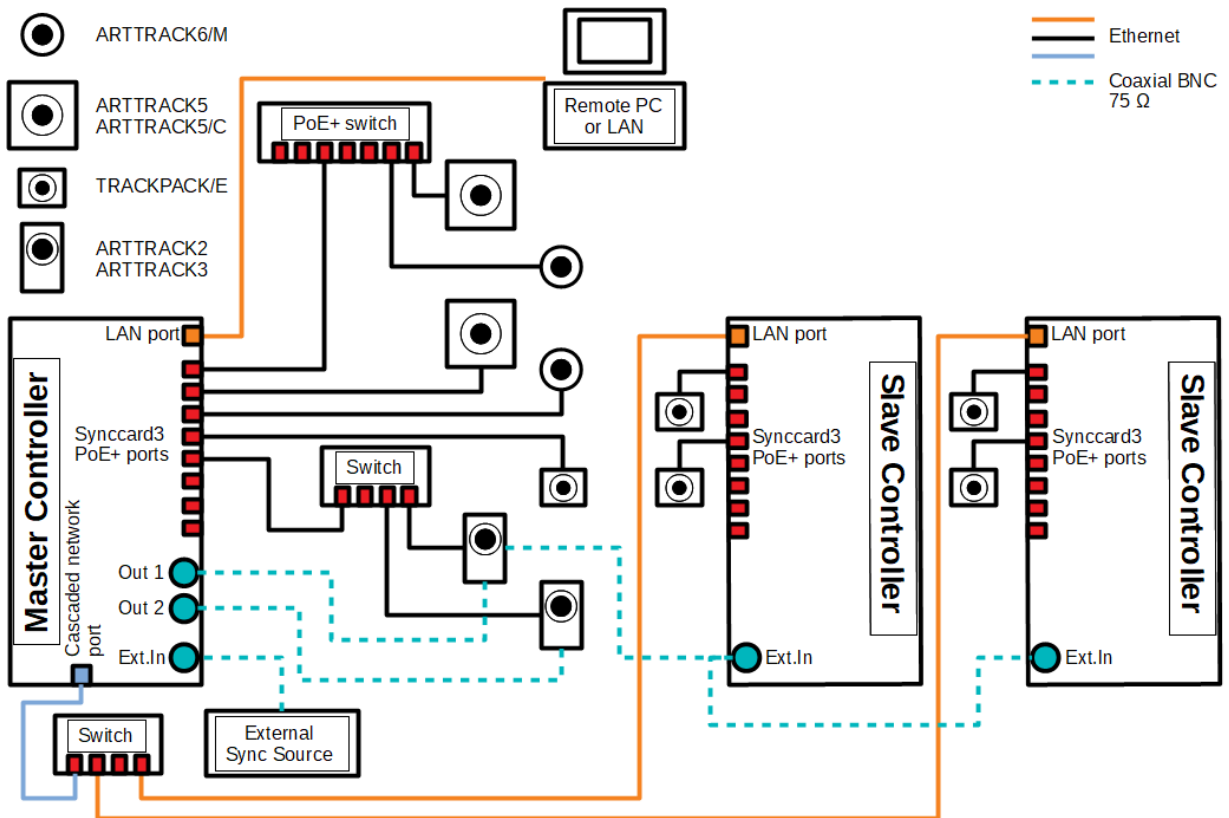

Figure 5.23: Principle of cascading using 'Cascaded Network Port'
**Option 2 - using the dedicated 'Cascaded Network Port' (ART Controller and ART Controller/M only)** Connect the data output 'LAN network port' of the slave controller(s) to the 'Cascaded Network Port' of the master. All slave controllers have to be synchronized with the master controller via a BNC coaxial connection, see fig. 5.23 on page 71).